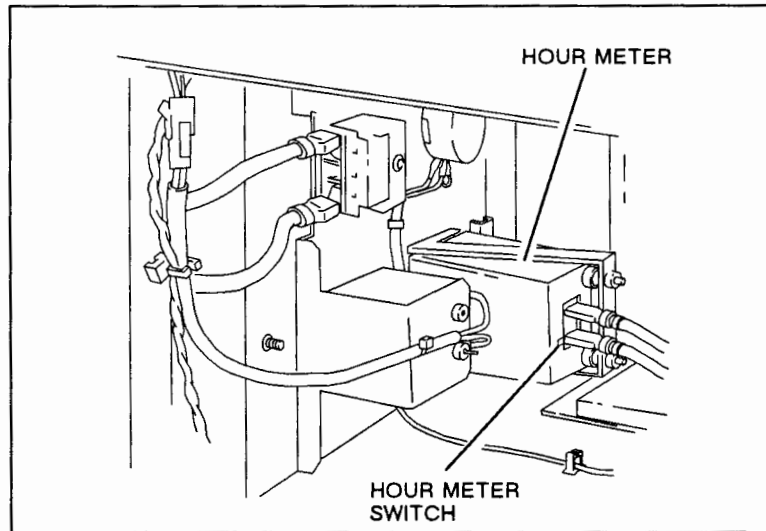

Figure 2-16. Setting the Hour Meter Switch
- l. Verify that the hour meter switch is in the correct position. See Figure 2-16.